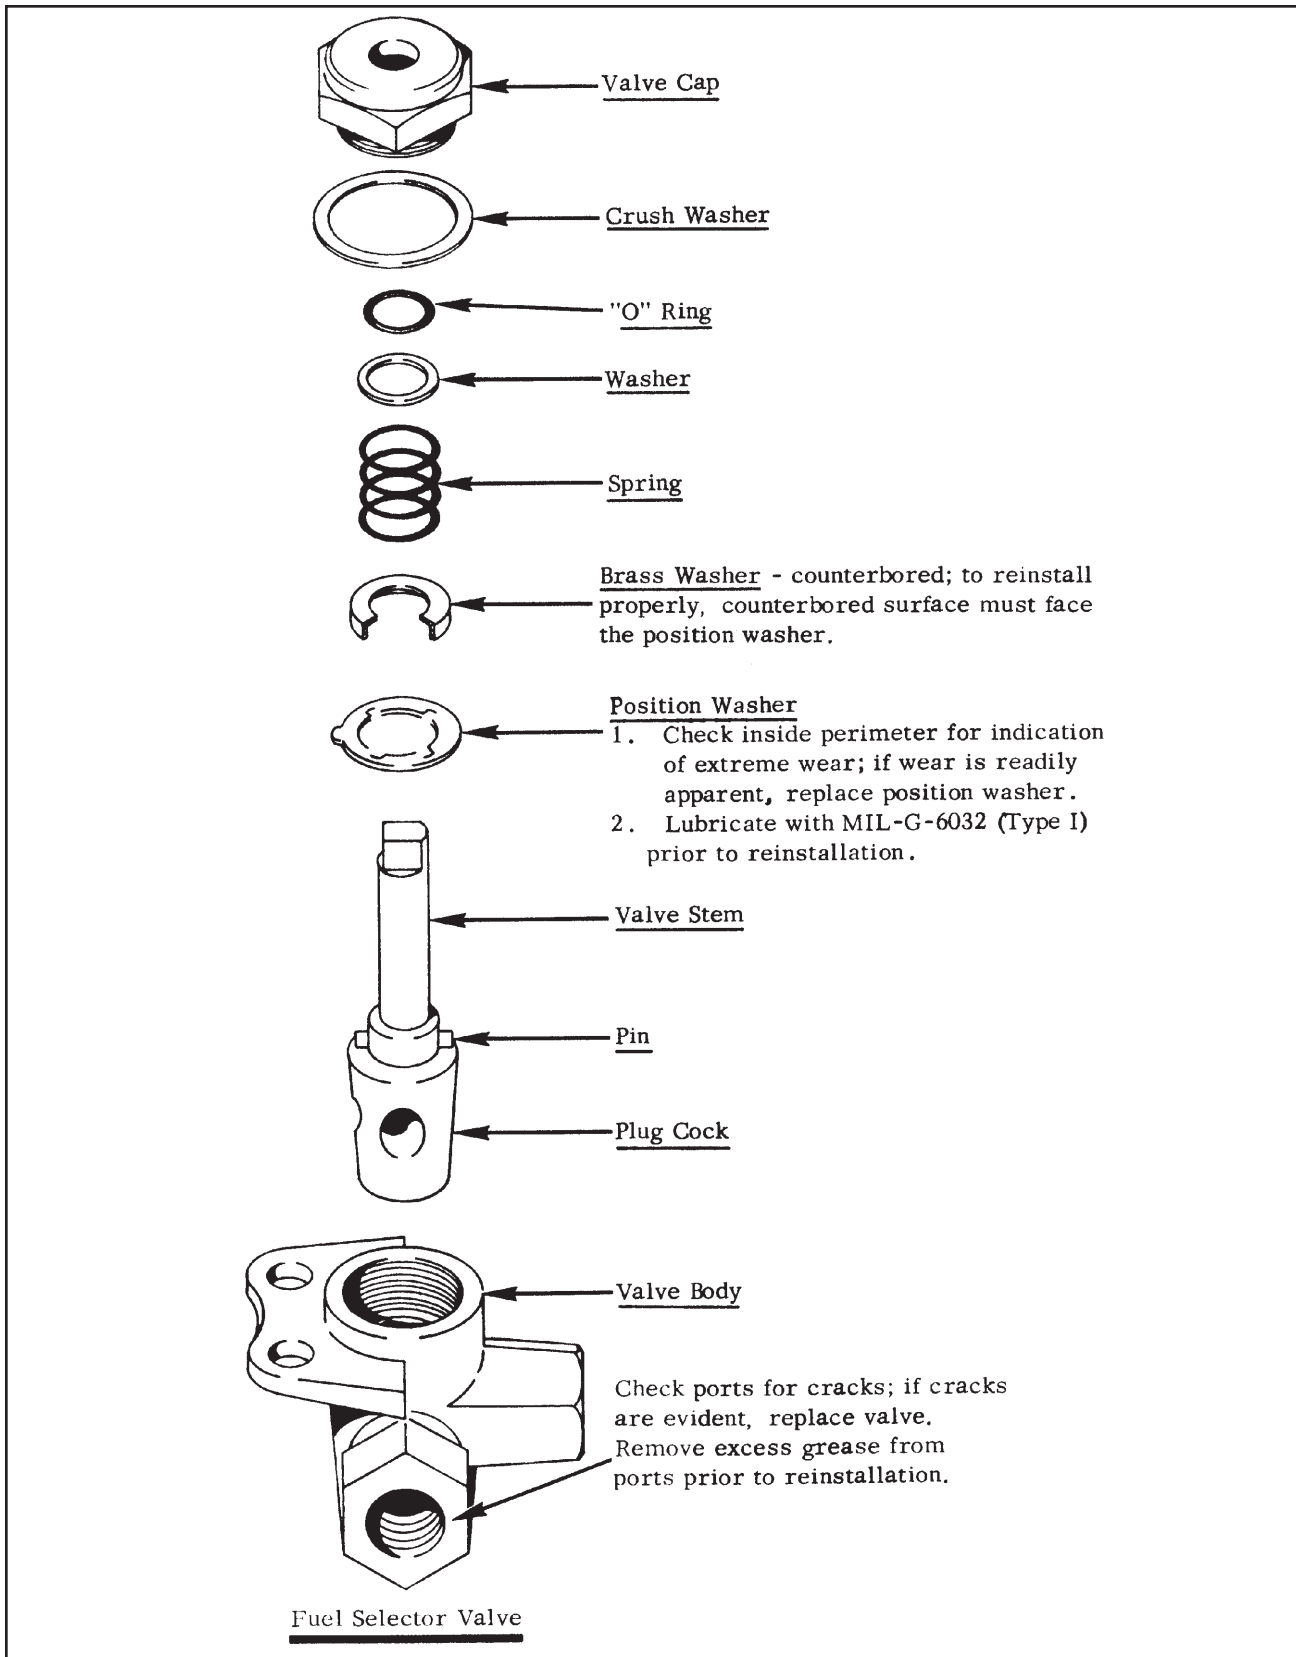

Figure 3-5
- (a) With the valve removed from the aircraft, remove the valve cap and interior parts (see Figure 3-5).